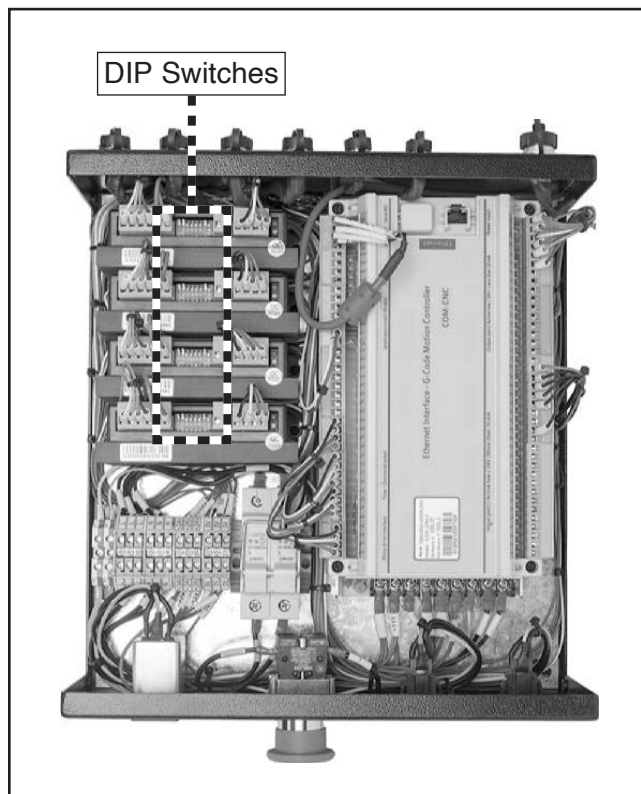

Figure 78. Location of stepper driver DIP switches.
3. Locate (4) stepper driver DIP switches in control box, as shown in **Figure 78**.